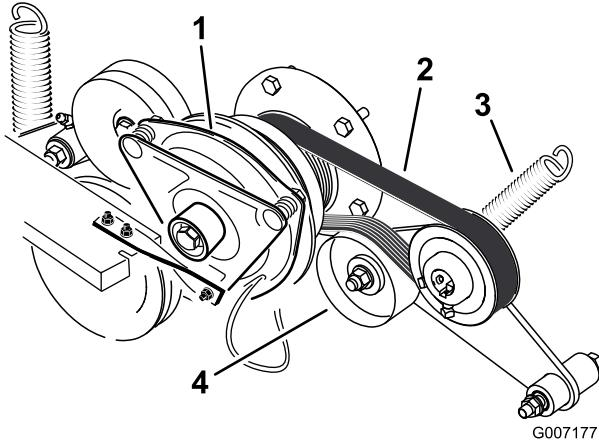

Figure 65
3. Remove the spring from the idler arm (Figure 65).
4. Install the new belt around the engine and hydro pump pulley (Figure 65).
6. Install the spring to the idler arm (Figure 65).